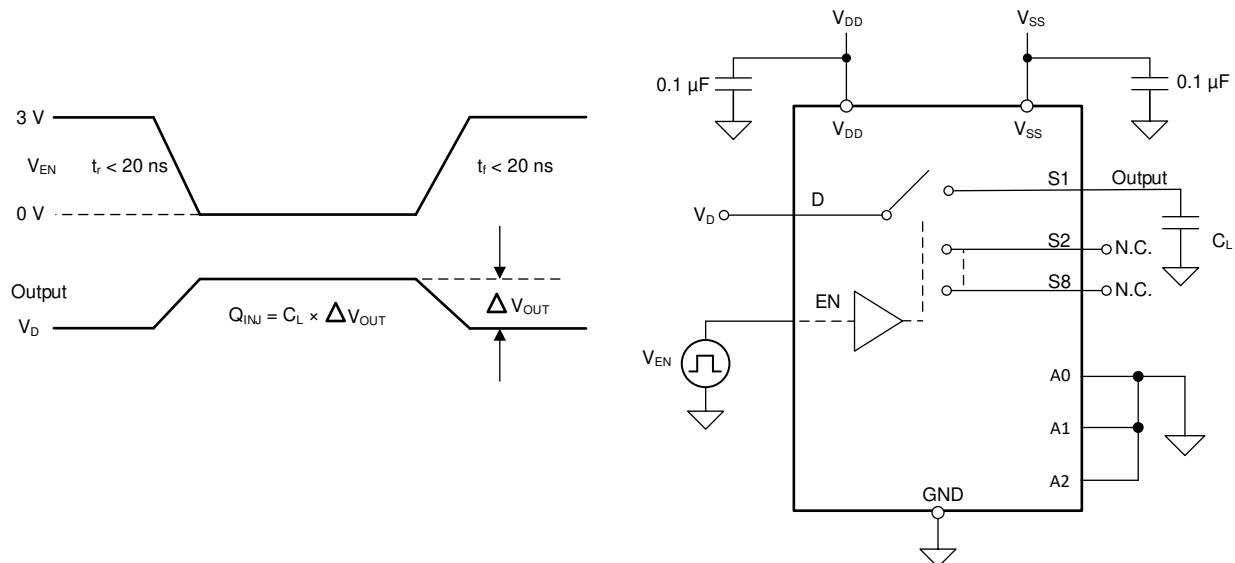

Figure 8-9. Charge-Injection Measurement Setup
The TMUX6208 has a transmission-gate topology. Any mismatch in capacitance between the NMOS and PMOS transistors results in a charge injected into the drain or source during the falling or rising edge of the gate signal. The amount of charge injected into the source or drain of the device is known as charge injection, and is denoted by the symbol Q_{INJ} . Figure 8-9 shows the setup used to measure charge injection from source (Sx) to drain (D).